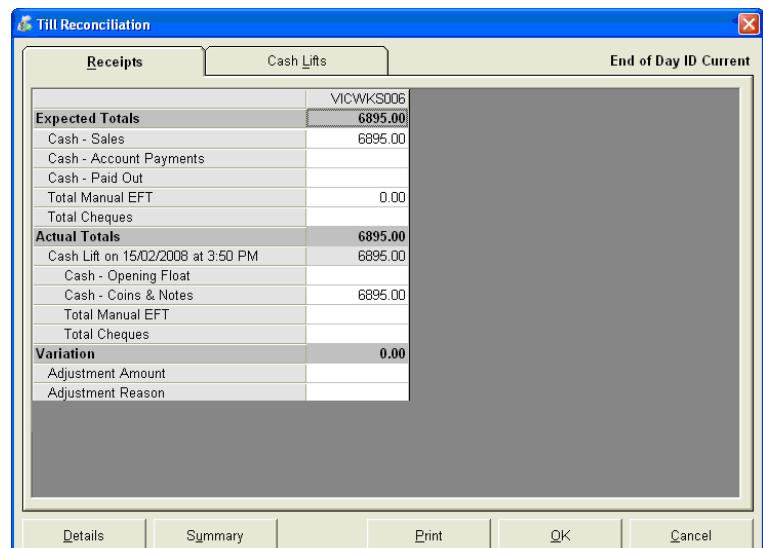

Figure 110
3. By clicking on Reconcile the 'Till Reconciliation' window will appear (see Figure 110).